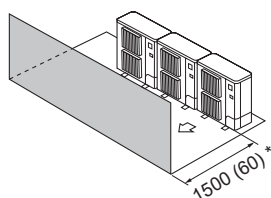

Fig. 2-14
- (3) Obstacles at front only (Fig. 2-14)